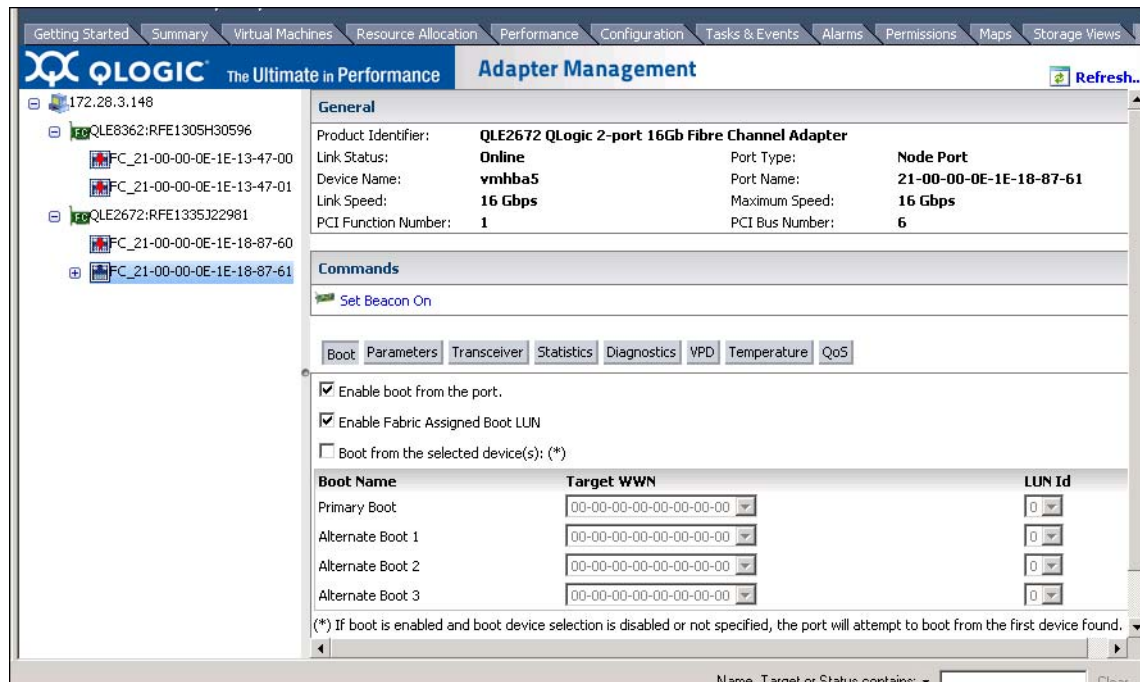

Figure 3-29. Fabric-Assigned Boot LUN in QConvergeConsole VMware vCenter Server Plug-in
4. On the Boot Device Selection page, select the **Enable Fabric Assigned Boot LUN** check box. Figure 3-29 shows an example.